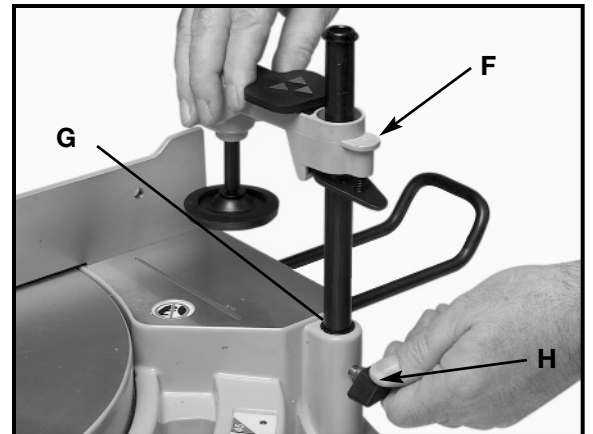

Fig. 7E
Install work clamp assembly (F) Fig. 7E into desired mounting hole (G). Assemble thumb screw (H) but do not fully tighten at this time.